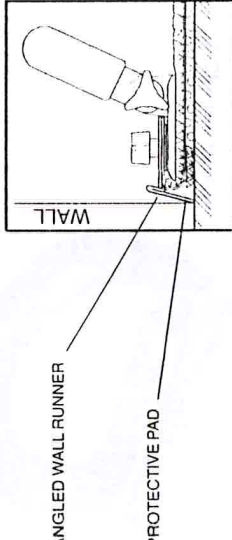

FIG. 3
- The wall runner has a plastic protective pad and is angled away from the wall to help reduce marking of the baseboards. See figure 3.
- Place the trimmer into the cut. Keep the bottom of the trimmer flat against the carpet, and the bottom edge of the wall runner at the junction of the floor and the wall. For references, please see figure 3.